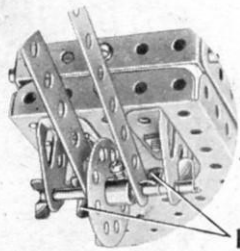

Fig. O.4a
The $5\frac{1}{2}$ " Strips forming the handle are placed one on each side of a Bush Wheel on the front axle, and they are held in place by Spring Clips (1) as shown in Fig. O.4a.